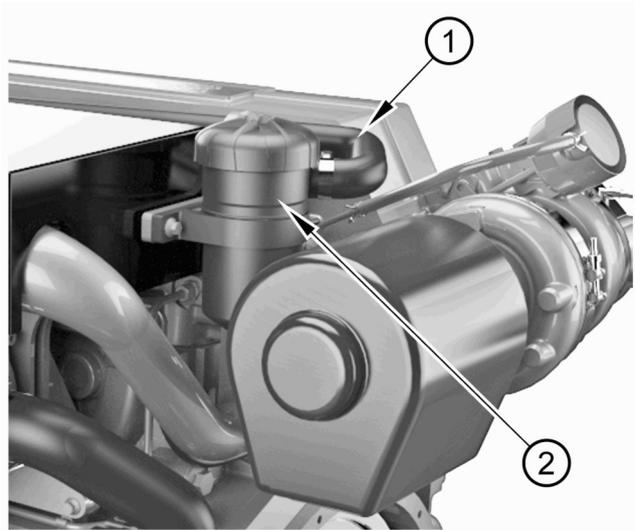

Figure 23
**Caution:** Do not use excessive force to remove the hose (figure 23 item 1) from the breather outlet pipe.
1. Remove the hose (figure 23 item 1) from the engine breather body (figure 23 item 2).